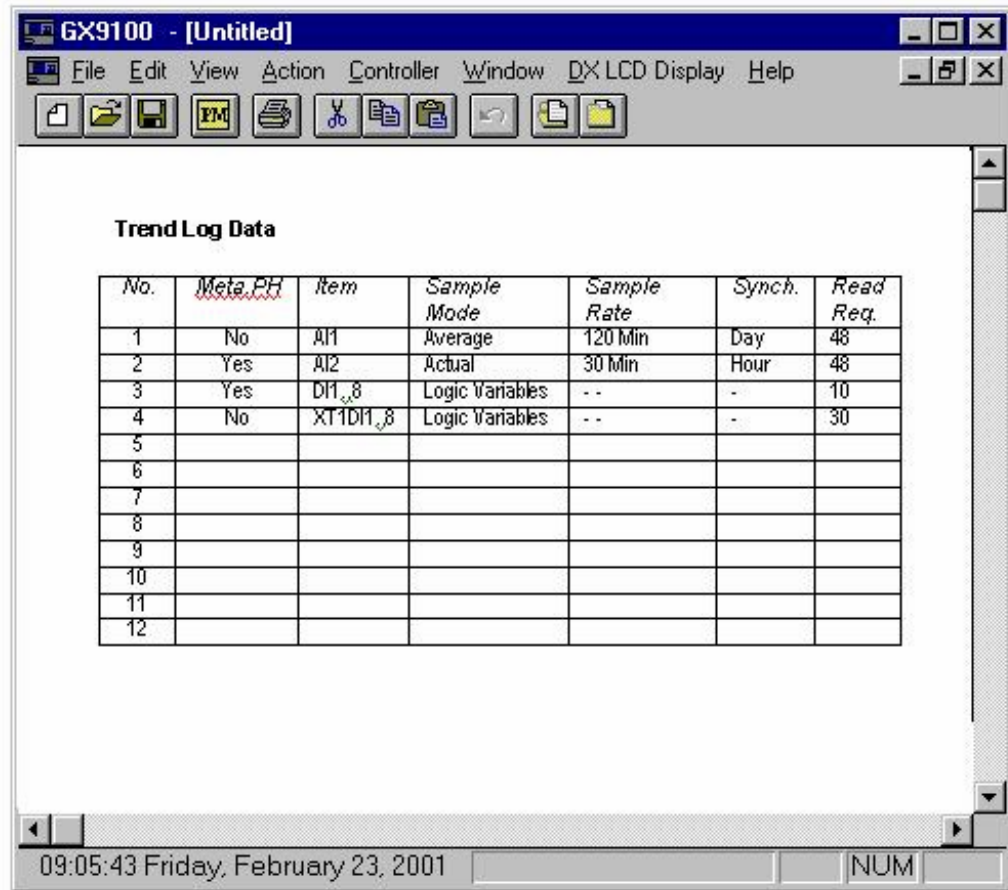

Figure 7-2: Trend Log Data Window Example
1. From the GX Tool main screen, double-click on the Trend Log module block. The Trend Log data window appears (Figure 7-2).